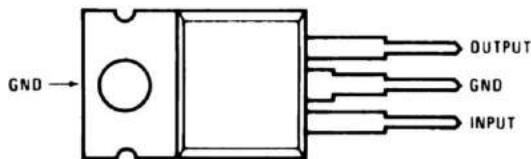

Figure 6-9: Pinout of the LM7805 voltage regulator
3. Connect the input of the regulator to a positive 12V source. (See Figure 6-9 for the pinout of the LM7805.)